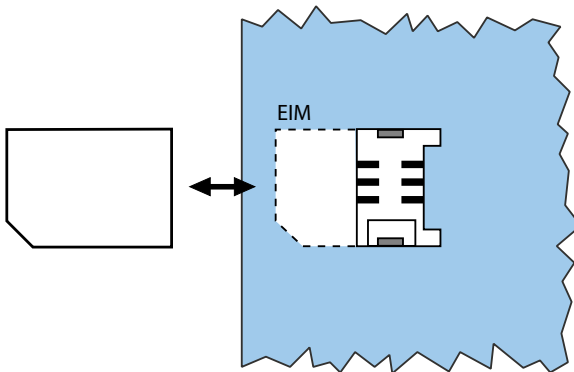

Fig. 76 EIM card
4. Push the new EIM card under the guide tongues and through to the stop in the chip-card holder. Make sure the contacts of the EIM card are facing downwards and the bevelled edge of the EIM card is pointing towards the edge of the mainboard (see Fig. 76).